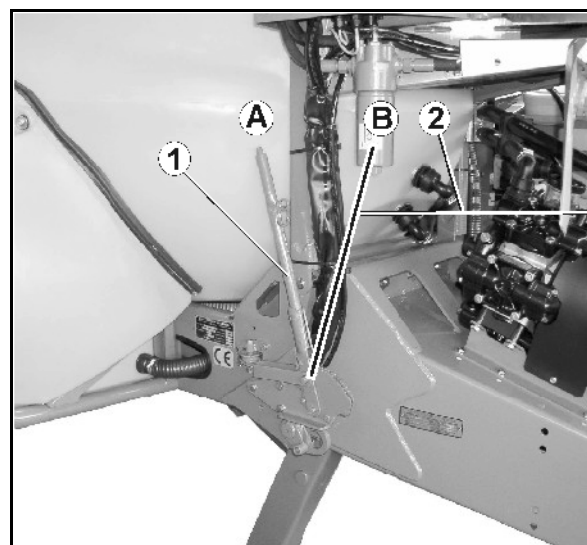

Fig. 32
- Parking brake (Fig. 32/1)
- Released (Fig. 32/A)
- Applied (Fig. 32/B)
- Pulling rope (Fig. 32/2)